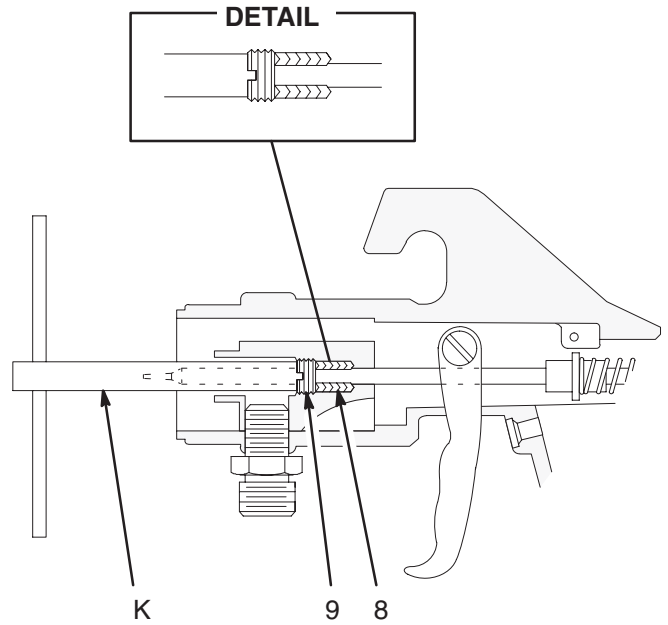

**Fig. 22**
9. Trigger gun while installing fluid nozzle (19) with nozzle wrench (P). See Fig. 22.
10. Install spring (25) into front of gun.